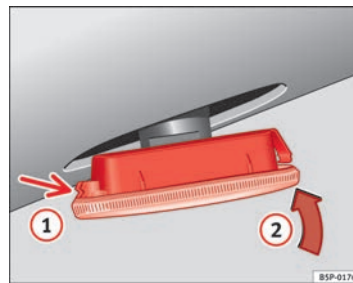

Fig. 173 Side turn signals
- First fit the turn signal in the opening in the chassis, fastening the tabs **(1)** ⇒ Fig. 173, and then fit in the bulb as shown by the arrow **(2)** ⇒ Fig. 173.